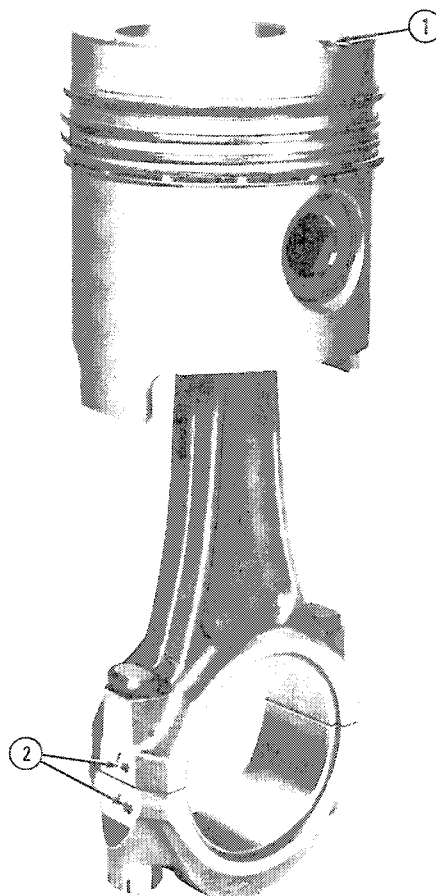

Figure 50
2. Lubricate all components with engine oil then assemble the piston to the connecting rod with the notch on the piston crown aligned with the pip on the connecting rod and install the piston pin and retainer (snap rings), Figure 50.